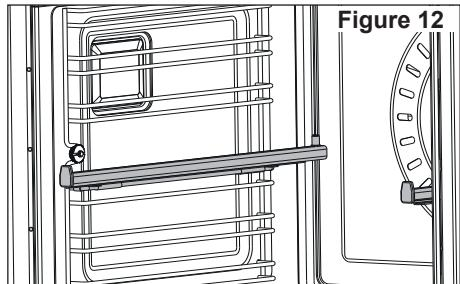

Figure 12
- Remove the side racks by unscrewing the fixing screws (fig. 12).